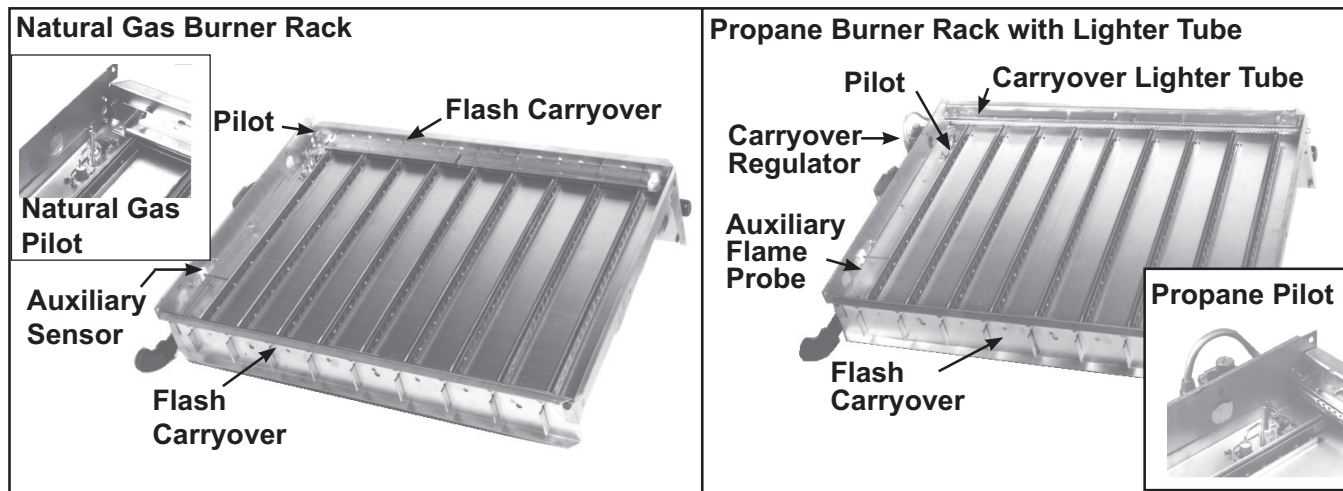

Figure 14. Typical Burner Rack with Pilot
- **Pilot:** The pilot (see Figure 14) is a vertical target type with lint-free feature. Pilot flame should be approximately 1-1/4" in length. Pilot gas pressure should be the same as supply line pressure (refer to Gas Supply Pressure section). Pilot gas is supplied through the combination valve; the pilot gas flow is controlled by an adjustment screw located in the valve body.